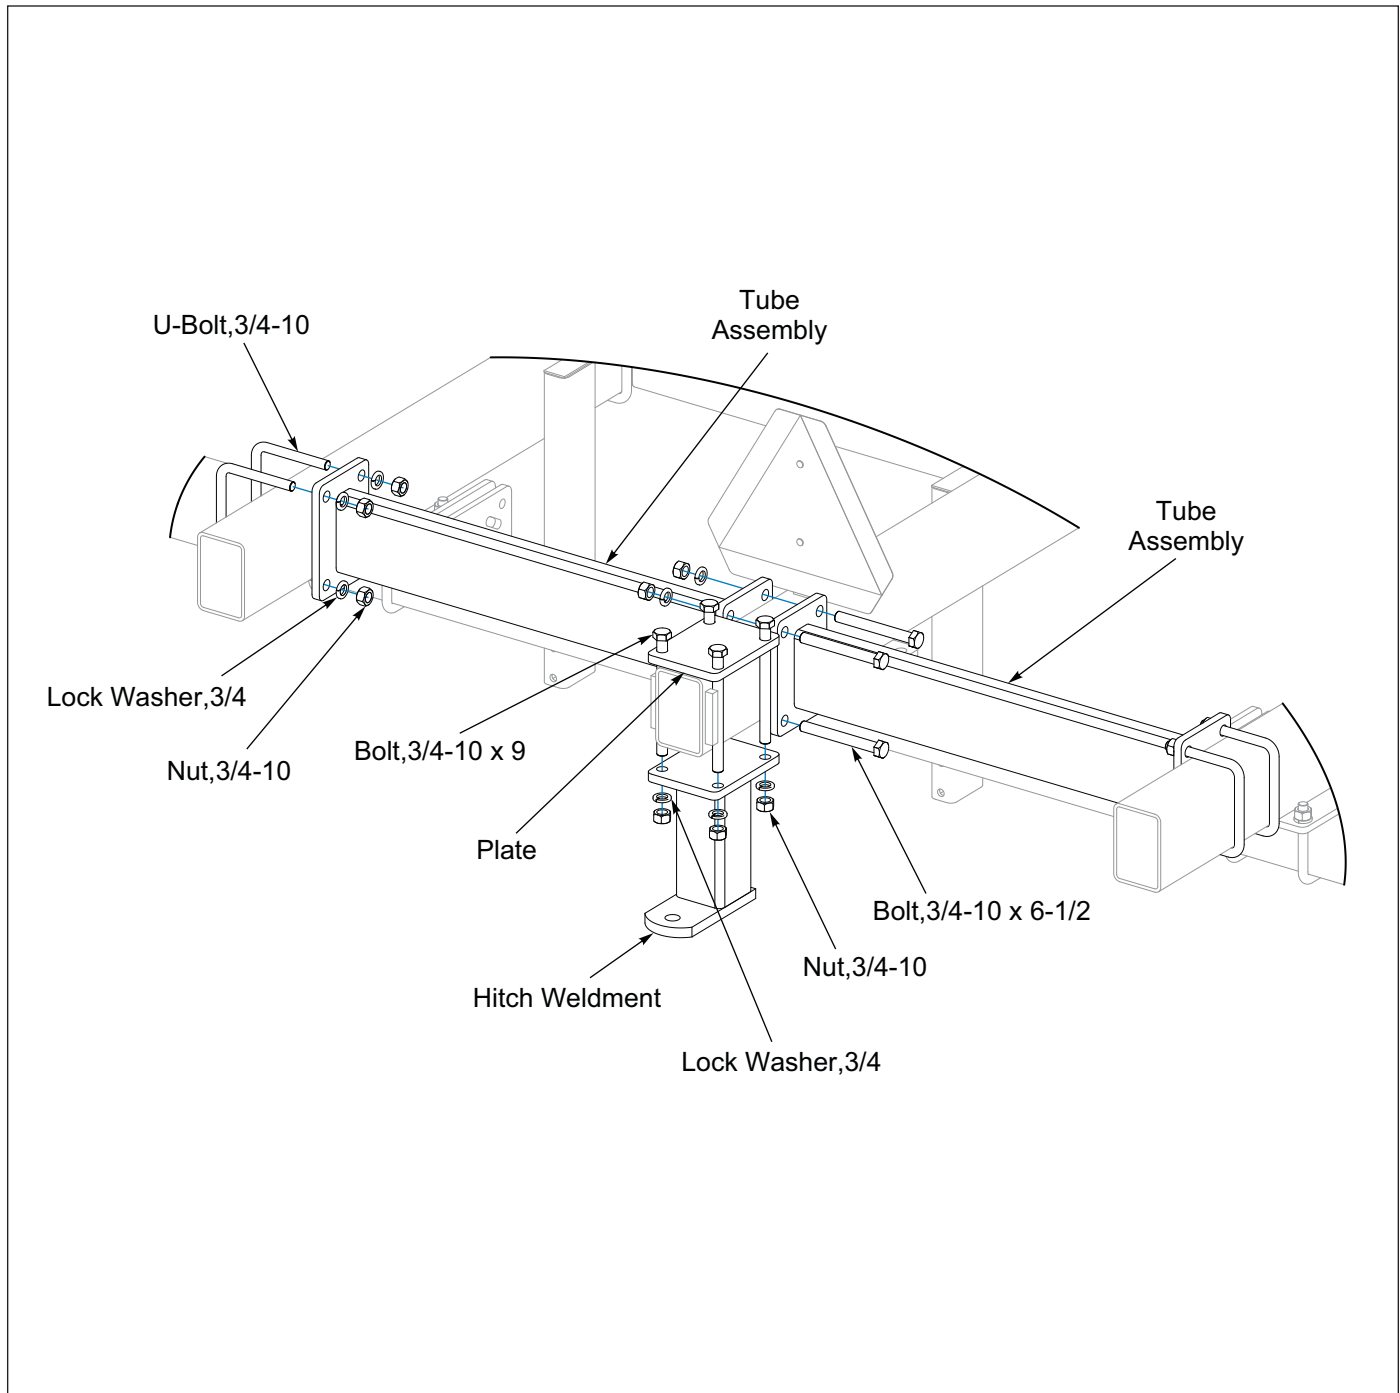

Figure 2-47: Rear Hitch - Optional
3. Adjust V-Leveler Bracket and Arm Weldments, Tighten U-Bolts. **See Figure 2-47.**
1. Place the 4 Hole Plate on top on the rear center frame tube, plate should be flush with the end of the tube. **See Figure 2-47.**